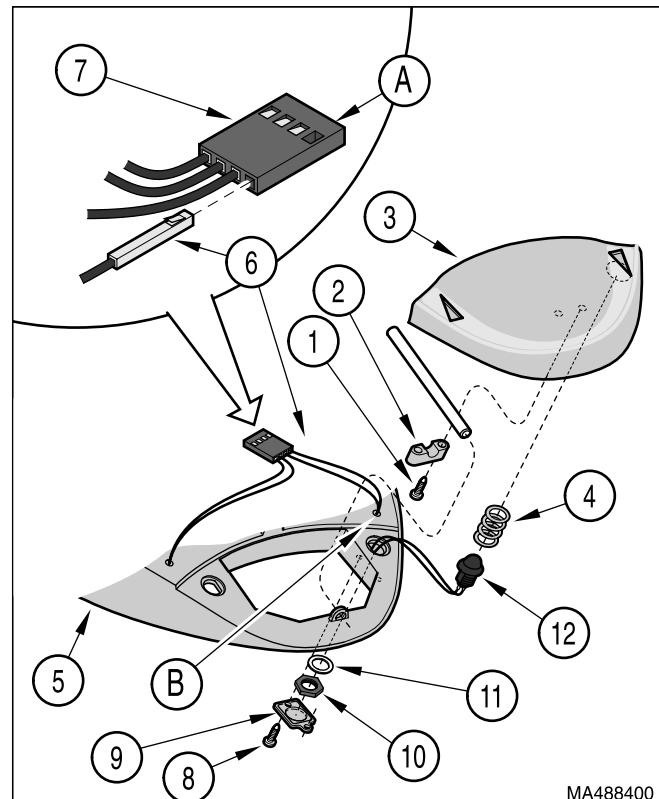

Figure 4-27. Foot Control Foot Pedal Switch Removal / Installation
- (1) Refer to para 4.20A (Removal - steps 1 thru 5).
- (2) Remove four screws (1, Figure 4-27), two pedal caps (2), foot control pedal (3) and two springs (4) from foot control base (5).
- (3) Tag switch lead (6) with position; then using a small screwdriver or similar device, gently depress the silver tab of the switch lead (6) thru the hole (A) in the wire harness connector (7) and pull the switch lead out of the connector. Repeat this procedure for the second switch lead.
- (4) Remove two screws (8) and switch cover (9).
- (5) Pull two switch leads (6) thru hole (B).
- (6) Remove nut (10), lockwasher (11) and switch (12) from foot control base (5).